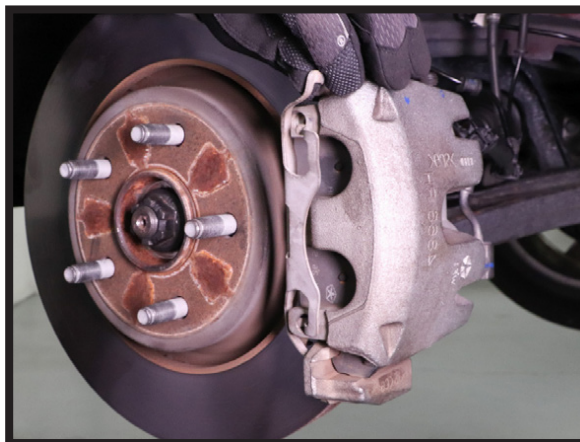

FIGURE 8
8. REMOVE BRAKE CALIPER RETENTION CLIP. (FIGURE 8)